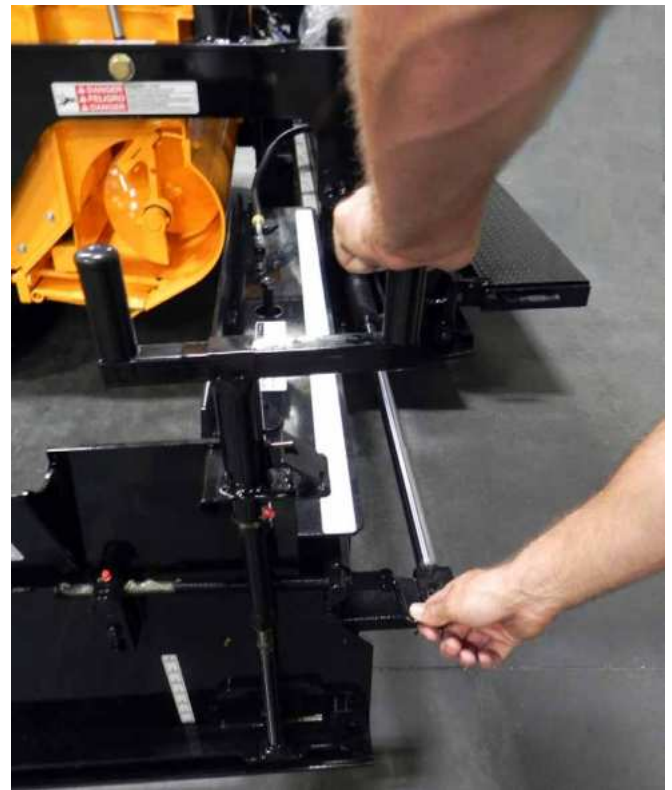

Figure 4-48. Endgate Tilt Screw Adjustment
6. Turn the tilt screw so the front of the endgate tilts down slightly when the screed is lifted. This will allow the endgate to set itself to the grade. (Figure 4-48)